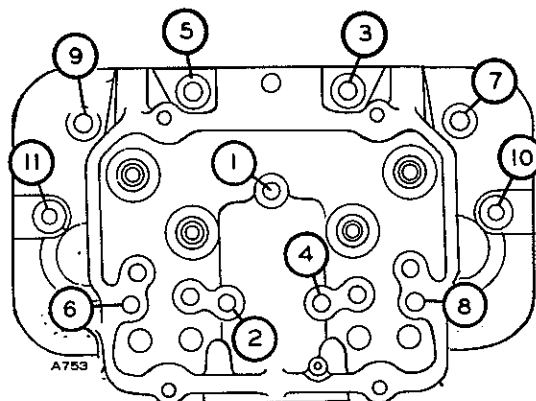

FIGURE 15-17. CYLINDER HEAD BOLT TORQUE SEQUENCE
7. Tighten head bolts to correct torque following the sequence in the appropriate illustration, Figure 15-17. See Specifications, Section 4 for correct torque values.
7. Tighten cylinder head bolts in sequence shown in Figure 15-17 to 25-30 ft. lbs. (34-41 N•m).